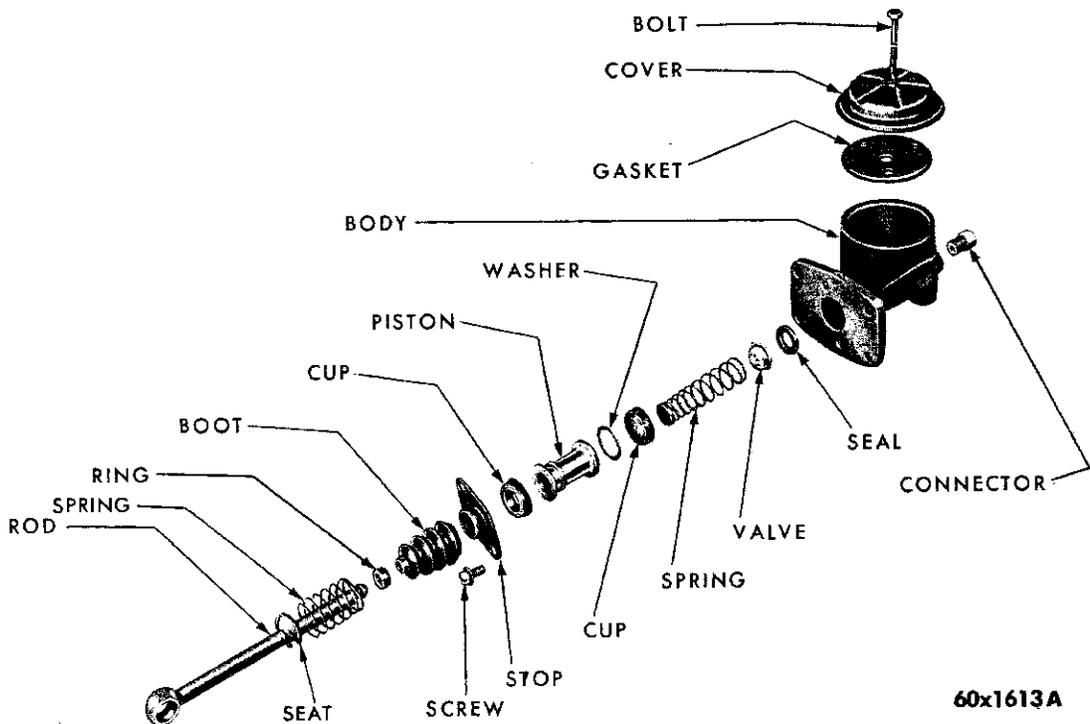

Fig. 7—Master Cylinder Assembly
Disassembly (Fig. 7)
- (1) Remove the pedal return spring.
- (2) Disconnect the push rod.
- (3) Disconnect the brake tube at the master cylinder.
- (4) Remove the nuts and bolts that attach the master cylinder to the dash panel. Slide the master cylinder straight out and away from the dash panel. Clean the outside of the master cylinder thoroughly, then remove the cover and drain all the brake fluid. Refer to Figure 7 and disassemble the master cylinder for inspection as follows:
- (5) Remove the piston stop flange attaching screws and remove the dust boot, push rod and piston assembly. (Do not remove the push rod from the piston.)
- (6) Remove the brass washer between the piston and the cup. Remove the master cylinder cup, spring and valve from the master cylinder.
- (7) Wash the master cylinder in a suitable solvent and inspect for a scored or pitted cylinder.
- (1) Install the check valve and spring in the cylinder with the valve toward the outlet of the cylinder (Fig. 7).
- (2) Install the master cylinder cup in the cylinder with the open end of the cup over the closed end of the return spring.
- (3) Install the secondary cup on the master cylinder piston and install the piston and push rod assembly in the cylinder with the flat brass washer between the piston and the cup.
- (4) Install the dust boot on the push rod and install the stop flange screws.
- (5) Reinstall the master cylinder on the firewall and fill with MoPar brake fluid.
- (6) Attach the brake line.
- (7) Bleed the brake system.